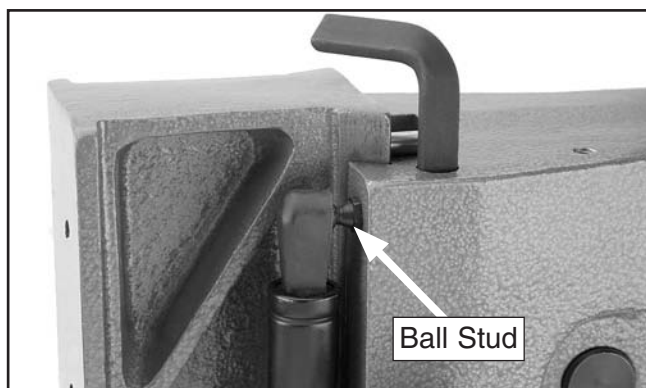

Figure 11. Gas spring attached to top of headstock.
4. Snap the gas spring ball sockets onto the ball studs, as shown in **Figures 11 & 12**.